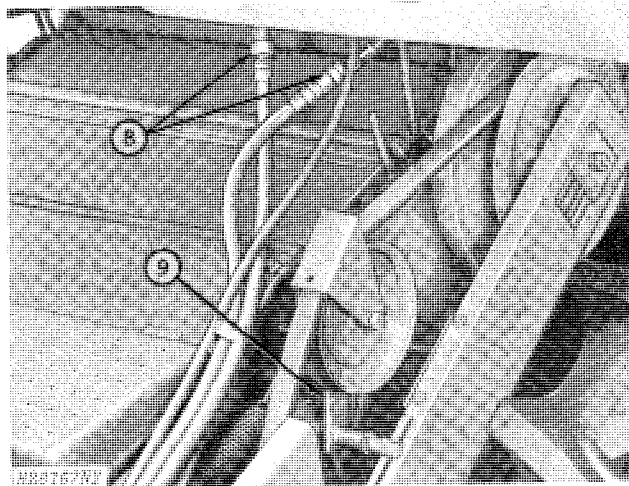

Fig. 80-Connecting and Routing Hoses
8. Connect hoses for hydraulic reel lift and hydrostatic reel drive at couplers under operator's platform (Fig. 80).
9. To prevent damage to variable speed feeder house hoses when they are disconnected, route hoses down between feeder house and variable-belt-drive and secure with clamps (Fig. 80). Do not connect hoses together.